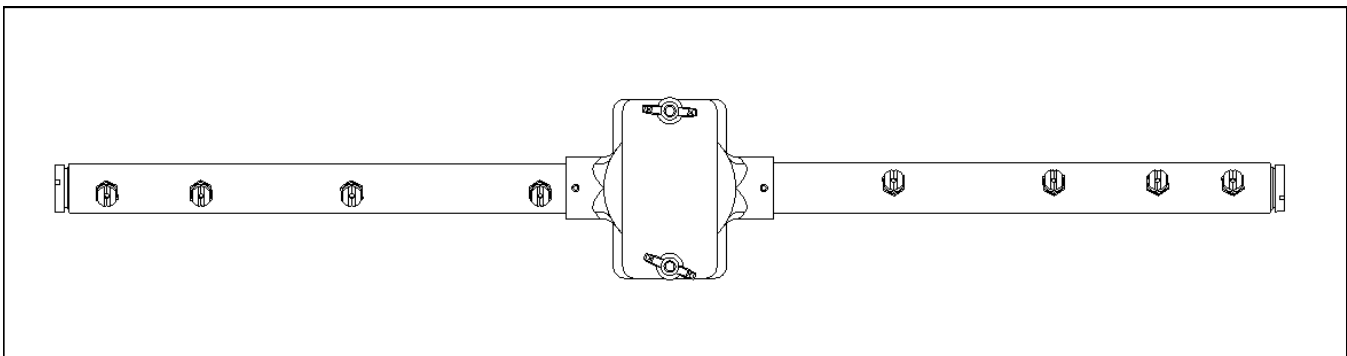

Figure 1: Positioning of Nozzles on Spray Arm
**Note:** When nozzles are removed, care must be taken to adjust them to their original position when replacing. See Figure 1.